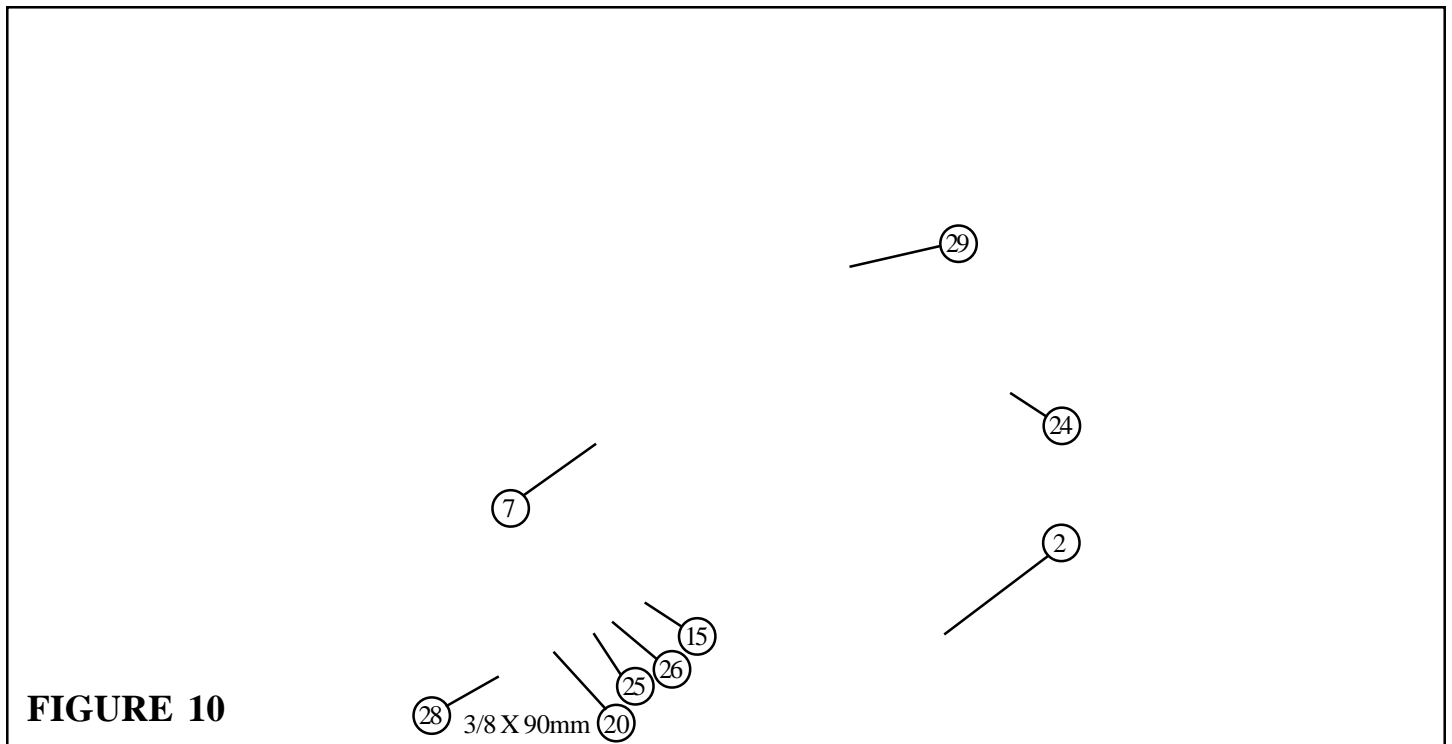

FIGURE 10
- Route the BI/TRI CABLE (29) between two 4-1/2" PULLEYS (7) and **SECURELY** assemble the 4-1/2" PULLEYS (7) to the BASE FRAME (2) using four RH CAPS (28), two 3/8 X 90mm BOLTS (20), four 3/8" SAE WASHERS (25), four 3/8" RH WASHERS (26), four 3/8 X 1" FLANGE SPACERS (15) and two 3/8" LOW HEIGHT LOCK NUTS (24) as shown in FIGURE 10